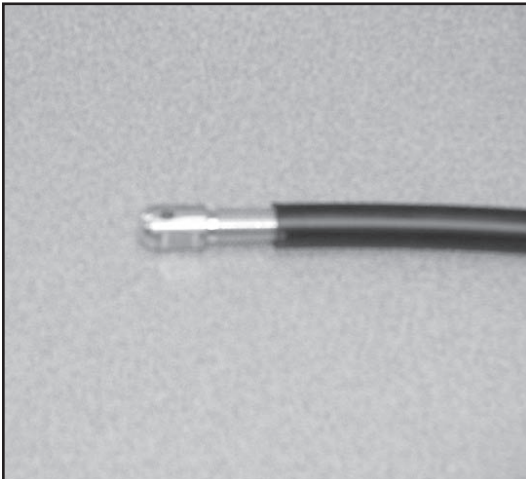

Figure 29
- E. Install Duct Cap into the exposed end of Micro Duct (Figure 29)